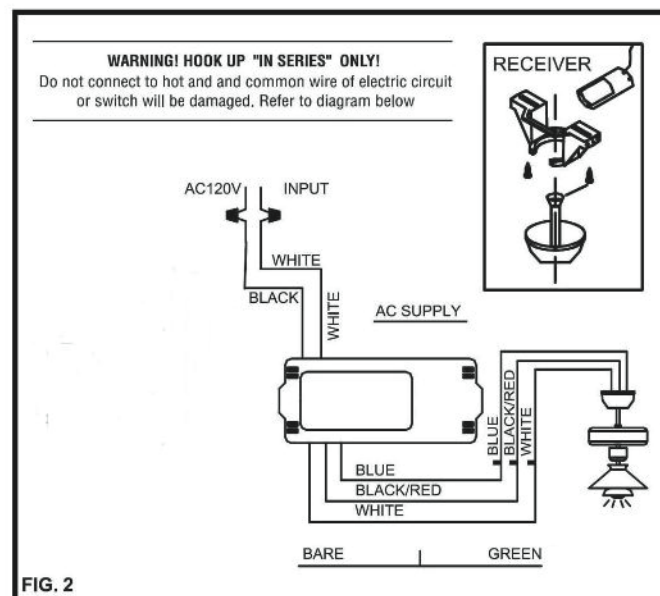

FIG. 2
2. INSTALLING THE RECEIVER (FIG.2)